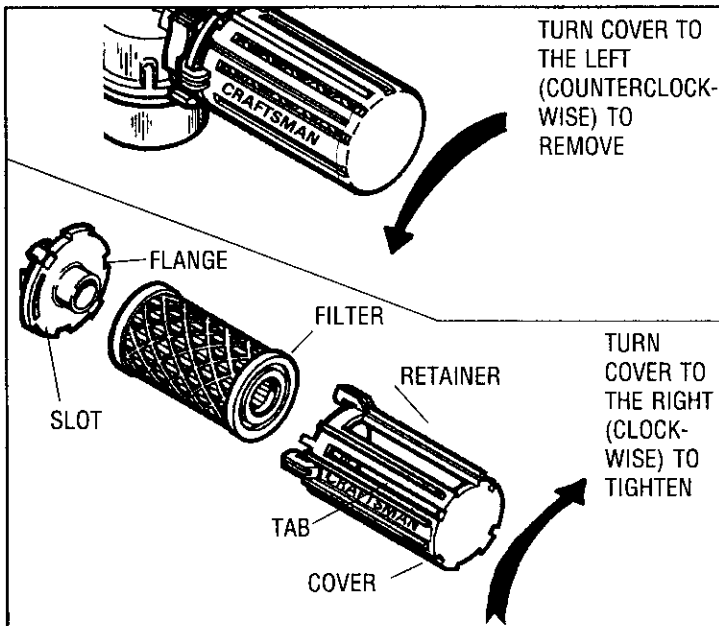

Figure 3
A. TO SERVICE PAPER FILTER (see Figure 3):